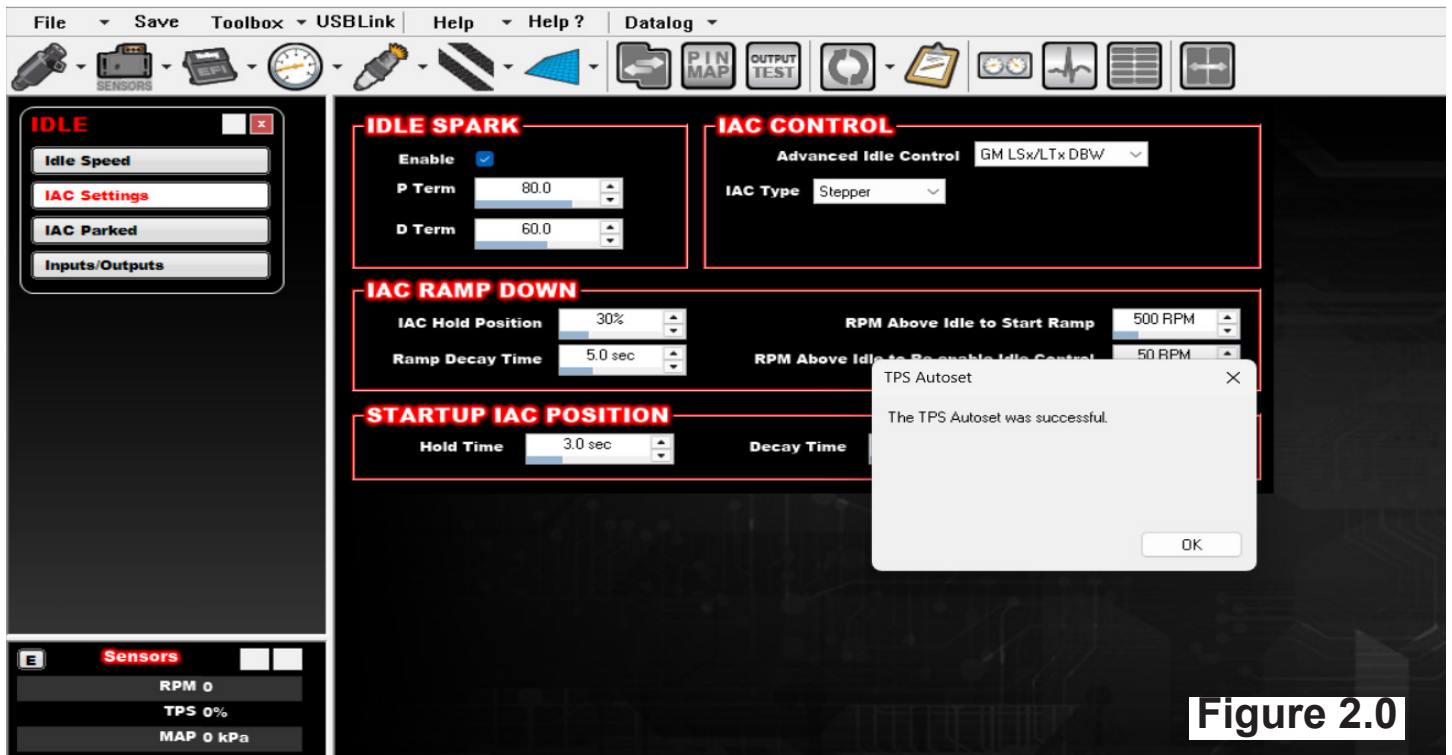

Figure 2.0
- 6.) Once the procedure is complete, click Done. The TPS AutoSet reset is now complete. (Figure 2.0)